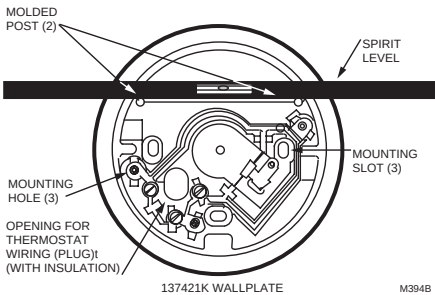

Fig. 1. Level wallplate before mounting thermostat.
- 1. Hold wallplate in position and mark holes for anchors. See Fig. 1. Obtain wall anchors locally. Be careful that the wires do not fall back into the wall opening. Set aside the wallplate. Drill four 3/16 in. (4.6 mm) holes and gently tap anchors into the holes until flush with the wall.
- 2. Pull electrical wires through the wallplate opening. See Fig. 1.
- 4. Level the wallplate using a spirit level. See Fig. 1. Firmly tighten the mounting screws. The mounting holes provide for minor out-of-level adjustments.